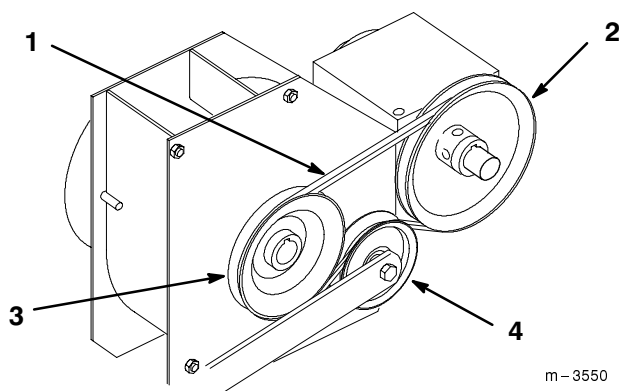

Figure 85
2. Push up on the spring loaded idler pulley behind PTO (power take off) gearbox to relax pressure on blower belt (Fig. 85). Lock into frame slot (Fig. 39).
4. Install new blower belt around PTO gearbox and blower pulleys. Then push up on the idler and place belt above idler pulley (Fig. 85).
5. Check that belt aligns with PTO, blower and idler pulleys (Fig. 85).